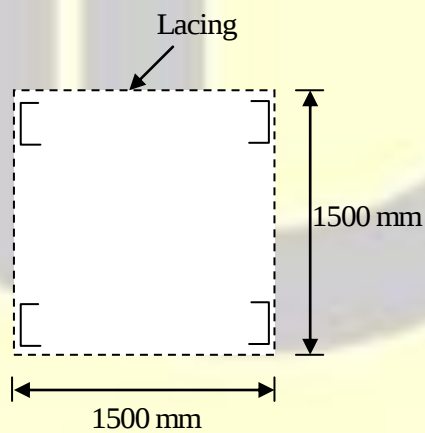

Figure 8
5. (a) A 6 m long built-up column carries an axial compressive force and consists of 4 nos. ISMC 350 sections as shown in Figure 8. A lacing is provided in each of the four planes. Explain the principle of design of lacing with the help of a neat sketch.